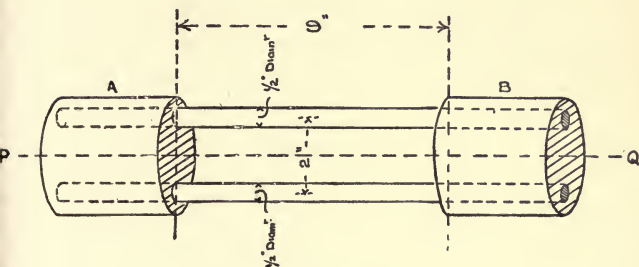

Fig. 4.
7. The cylindrical pieces *A* and *B* (see Fig. 4) are joined by two steel rods having their ends firmly fixed in *A* and *B*.